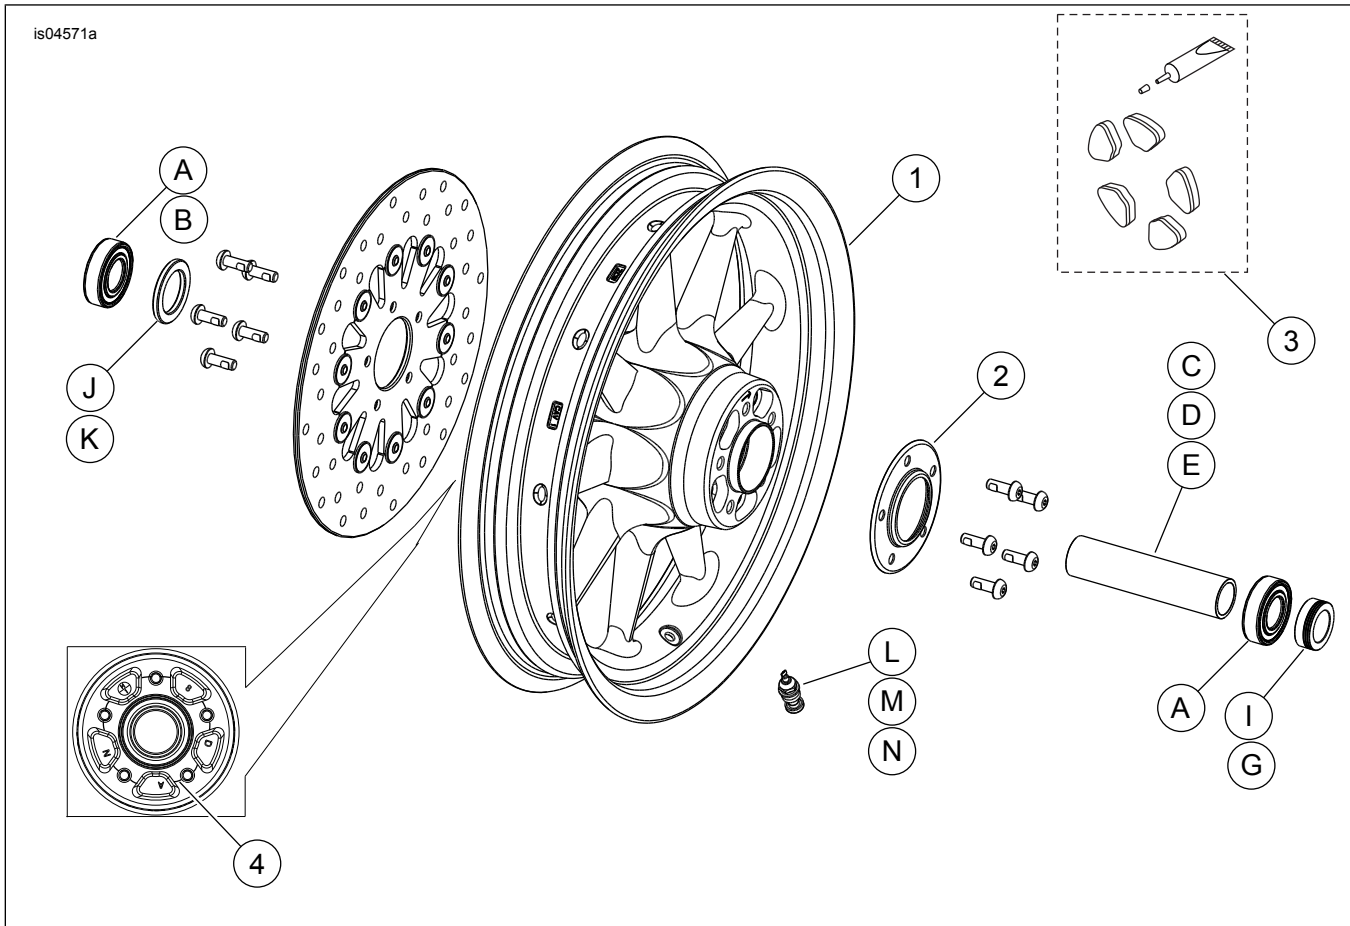

Figure 1. Service Manual: Front Nine-Spoke Wheels
See Figure 1 and Service Parts Tables.
2. See Figure 1. Install valve stem assembly (M) on wheel. Refer to TIRES in service manual.